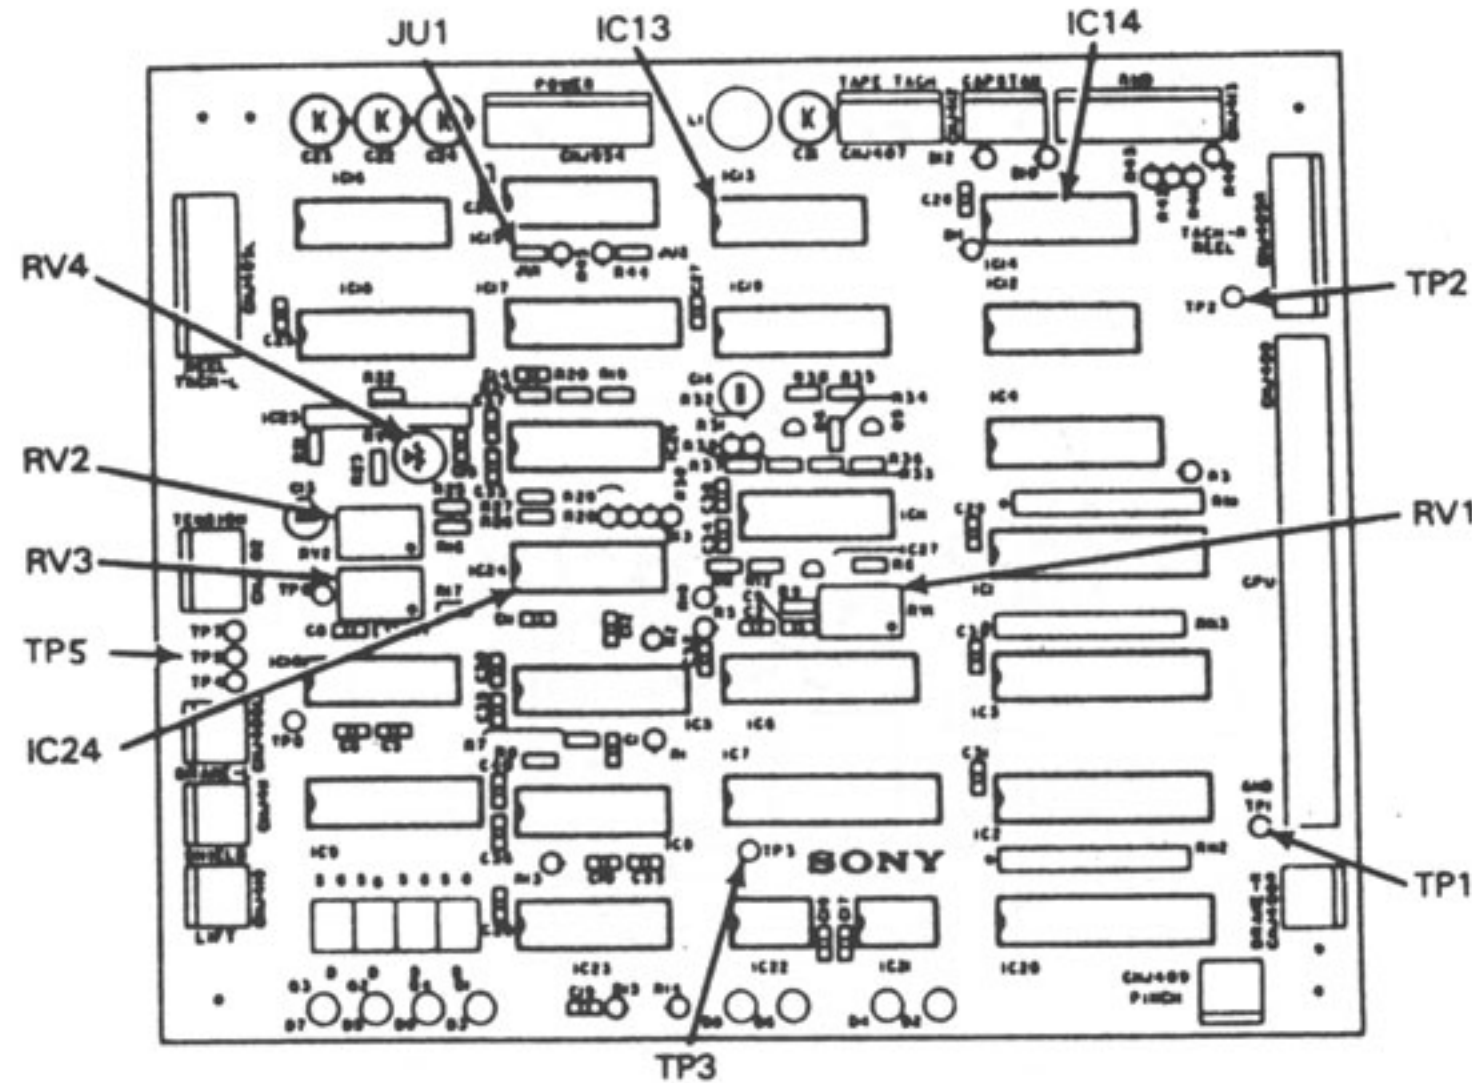

Figure 7-2. TIB Board
STEP 1. Ensure that the machine is OFF and connect the 14-pin DIP clip to IC13 on the TIB board (Figure 7-2).